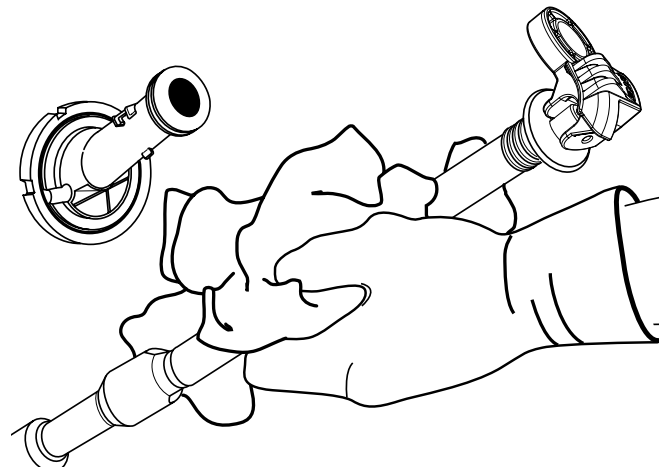

Figure 4. Remove fuse holder from Bay-O-Net housing and wipe clean of insulating fluid.
- Wipe off fuse cartridge holder and fuse cartridge using a clean cloth. (See Figure 4.)